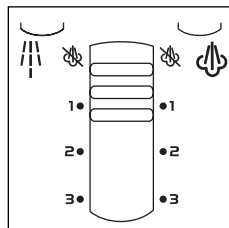

fig. 1
Before filling the water tank, make sure the steam regulator is in the position  ("dry" position) (fig. 1). Make sure the power cable is unplugged from the mains socket.
- Turn the steam regulator to the  position (=dry) (fig. 1) and the thermostat dial to the **MIN** position.